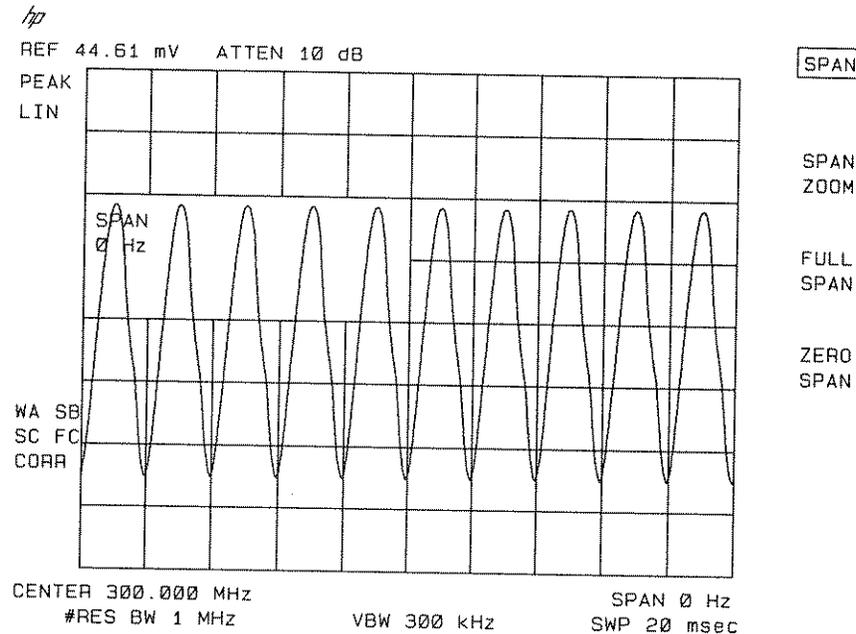

Figure 6-27. Measuring Modulation in Zero Span
5. To select zero span, press **[SPAN]**, **0 [Hz]** or **ZERO SPAN**. See Figure 6-27. If the modulation is a steady tone (for example, from a signal generator), use video trigger to trigger on the waveform and stabilize the display. Adjust the sweep time to change the horizontal scale.